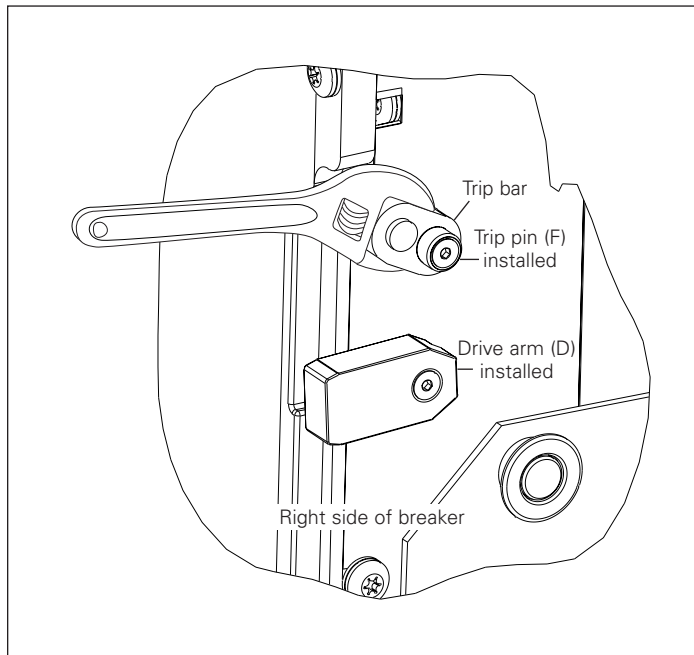
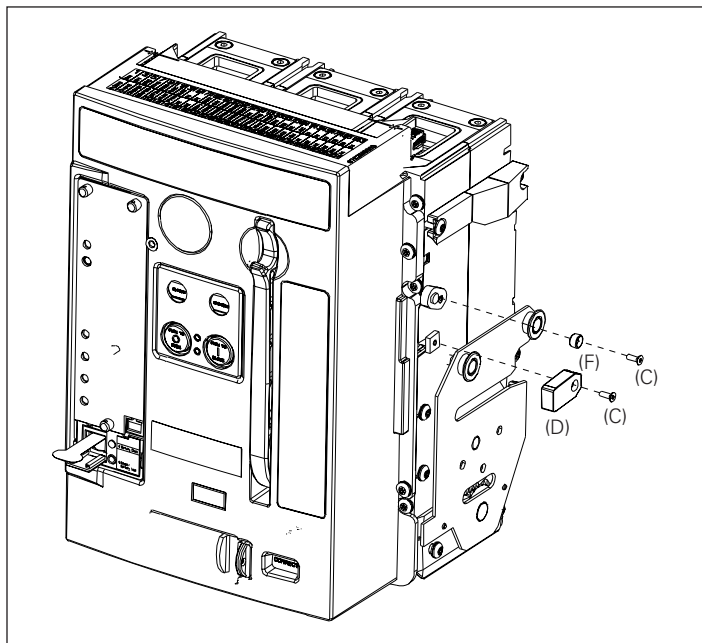

Figure 5. Details for Steps 1 and 2
Figure 4. Details for Steps 1 and 2
Install the drive arm (D) to the end of the pole shaft using one M3 x 8 mm flathead screw (C) as shown in **Figure 4** and **Figure 5**. Apply Loctite® Blue 242 to ensure that the screw cannot loosen during operation. The drive arm should be oriented as shown in **Figure 4** and **Figure 5**. Torque to 0,3–0,6 N·m (3–5 in-lb).
Install the trip pin (F) to the trip bar using an M3 x 8 mm flathead screw (C) while holding the trip bar with an adjustable wrench as shown in **Figure 4** and **Figure 5**. Apply Loctite Blue 242 to ensure that the screw cannot loosen during operation. Torque to 0,3–0,6 N·m (3–5 in-lb).